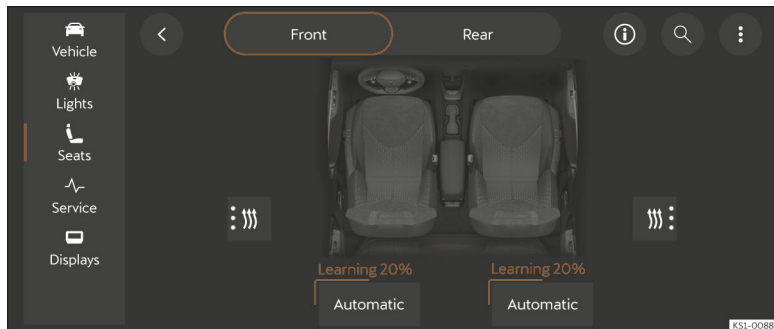

Fig. 102 Schematic representation: Seats menu
- To activate/deactivate the function go to the seat heating submenu, and press on the **Automatic heating** button below the image of the corresponding seat >>> Fig. 102.